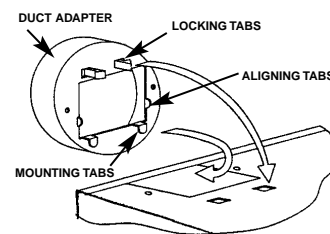

FIGURE 3
- Attach duct adapter to housing by first hooking two mounting tabs over flange in discharge opening. Pivot duct adapter insuring aligning tabs are inside opening and align two locking tabs with small rectangular holes. See Fig. 3. Press tabs firmly into holes to lock.